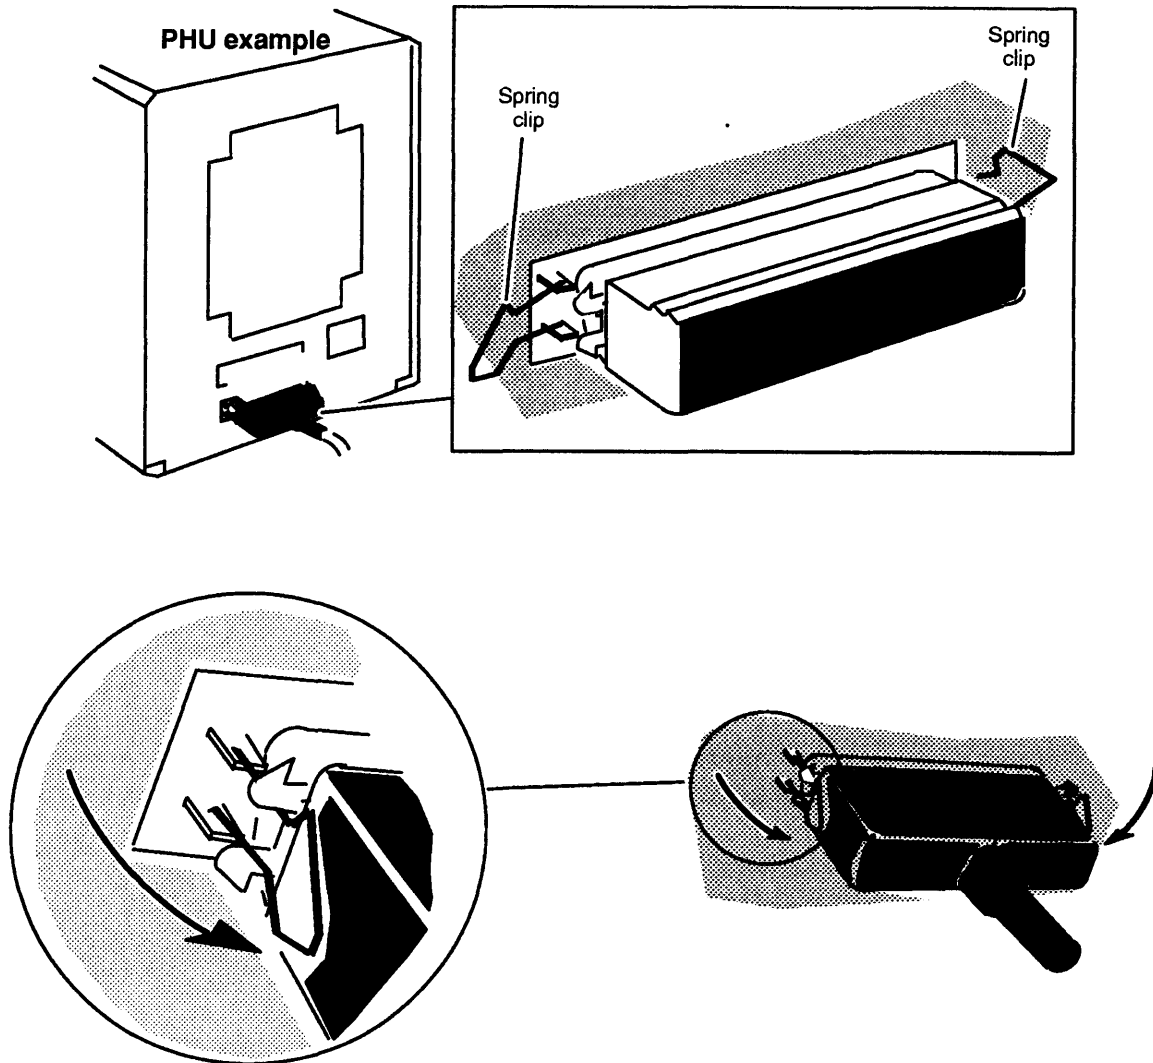

Figure 2-14 Connecting and Securing a SCSI Cable Connection
5. Plug the other end of the SCSI bus cable into the connector on the drive or housing unit and secure the cable's connector by closing over the two spring clips, as shown in Figure 2-14. Push the spring clips straight down or straight up into the brackets of the connector; your vertical pressure will push the clips into place and secure the connection. Do not squeeze or pull the clips out of shape.